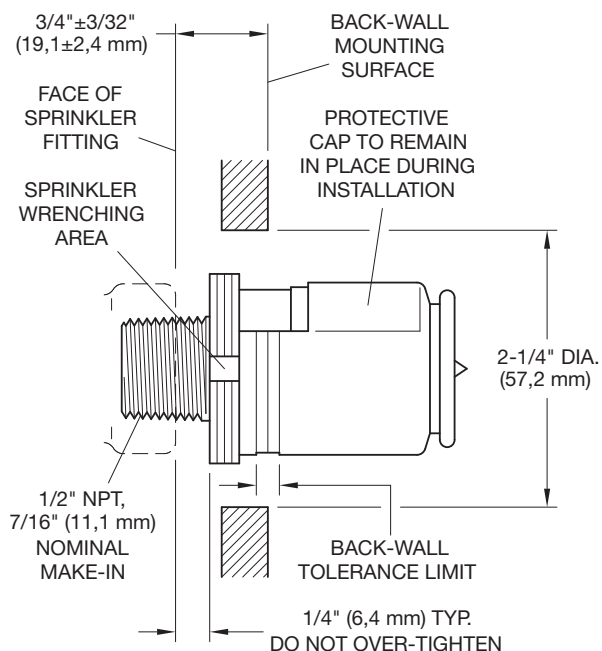

FIGURE 1A
2. Install the sprinkler fitting so that the distance from the face of the fitting to the mounting surface will be nominally 29/32 inches (23,0 mm) as shown in Figure 1A.
4. Wrench tighten the Sprinkler using only the Sprinkler Socket or Wrench & Socket Combination (Figure 2). The wrench recess of the Socket is to be applied to the sprinkler wrenching area (Figure 1A).
5. Step 5. Use the "backwall tolerance limit" indicator (Figure 1A) on the Protective Cap to check for proper installation depth. The finished wall surface must line up within the 3/16 inch (4,8 mm) range of the "backwall tolerance limit". Figure 1A illustrates the finished wall surface at the mid-point of the "backwall tolerance limit". Relocate the sprinkler fitting as necessary. If desired the Protective Cap may also be used to locate the center of the clearance hole. Apply chalk to the center point of the Cap and then gently touch the wall material against the center point of the Cap.